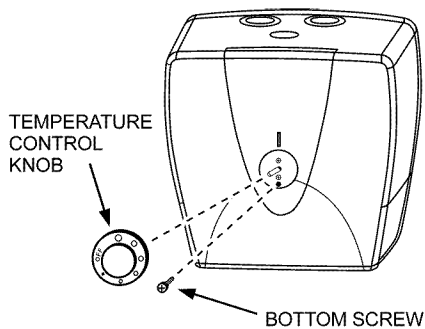

FIGURE 9.
3. Using a Philips screwdriver, unscrew the bottom screw securing the outer door, see Figure 9.